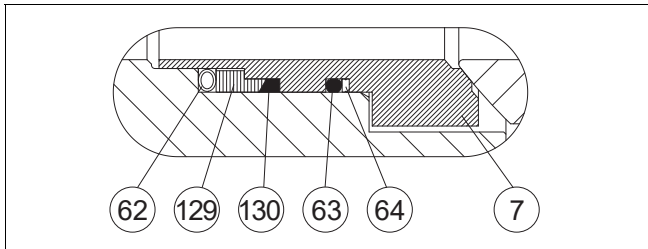

Fig. 12 S seat
- Place the back seal (O-ring) (63) into the groove in the seat. See Figure 12.
- Place the back-up rings (64) made of PTFE strips at the side of the O-ring. To ensure that the seam becomes flexible, the strip must have slanted ends.
- For easier assembly, lubricate the O-ring and back-up ring surfaces facing the seats with silicone grease or another suitable substance. Please ensure the compatibility with the flow medium. Place the backseal (130) and ring (129) on the seat.
- Place the spring (62) on the seat (7). Connect the ends of the spring.